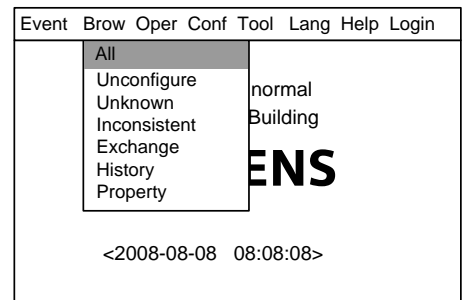
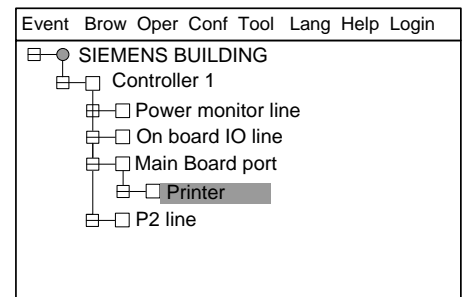

Fig.29-2
Fig.29-3
2. Press "→" to select "Brow" submenu (Fig. 29-2). Select "All" and then press "OK". Now the tree diagram will be displayed in the window (Fig.29-3). Usually printer is under mainboard port.